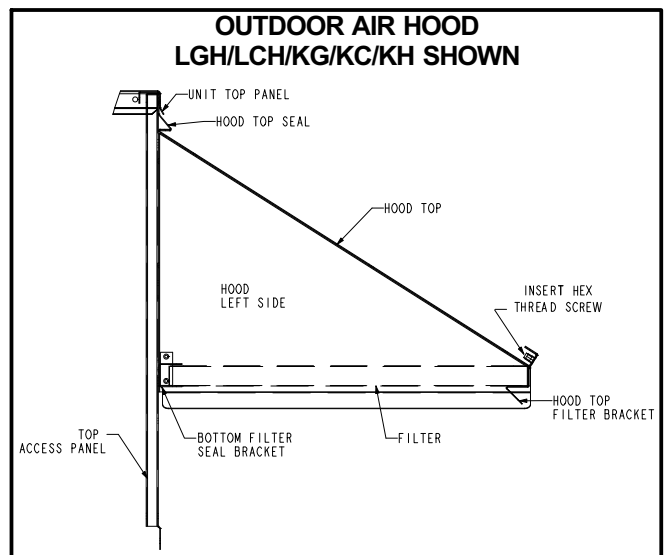

FIGURE 7
- 2- *LGH/LCH/KG/KC/KH Only* - Slide hood top seal under unit cabinet top and secure using three of the existing cabinet top panel screws. Install, but do not tighten, the screws on each end of the hood. See figure 7.
- 3- Position the hood top edge V-channel under the corresponding V-channel on hood top seal. Slide hood from right to left until it is properly positioned. See figure 7.
- 6- Align the two holes on the left hood side with the two holes in the bottom filter seal bracket. Secure using provided screws. See figure 7.
- 7- Secure bottom filter seal bracket to the right hood side as shown in figure 7.